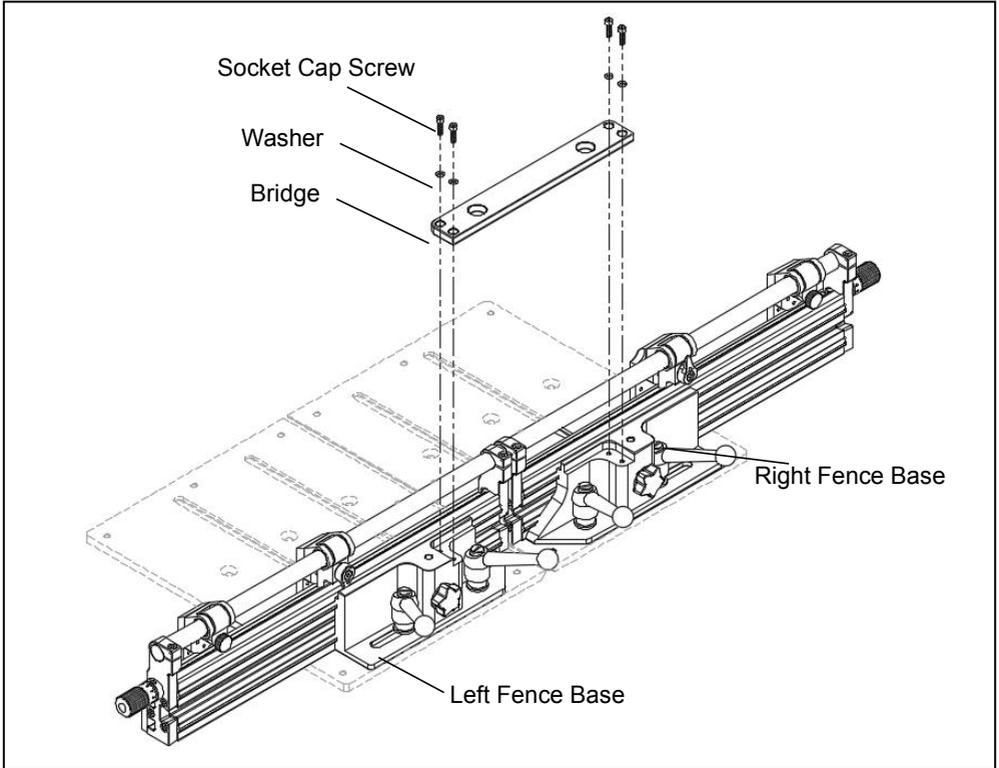

Fig.2
- As shown in Fig. 2, loosen the 4 adjusting levers, attach the fence bridge to the fence base, and tighten the socket cap screws after calibrating the fence halves (left and right fence base). Temporarily leave both the adjusting levers and socket cap screws slightly loosen to allow calibration of the left and right fence base.